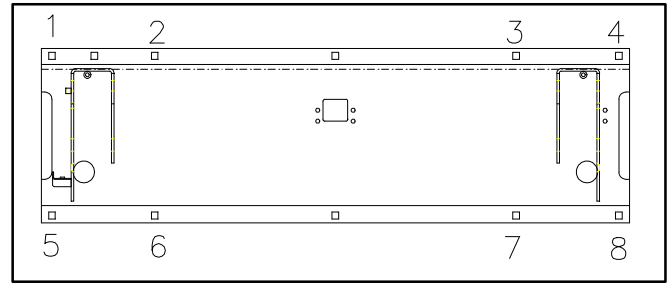

FIGURE 2-8: BUS BASEPLATE HOLES
- b. Refer to **Figure 2-8**. Mark/drill eight 25/64" baseplate assembly mounting holes (1 thru 8) through vehicle floor.